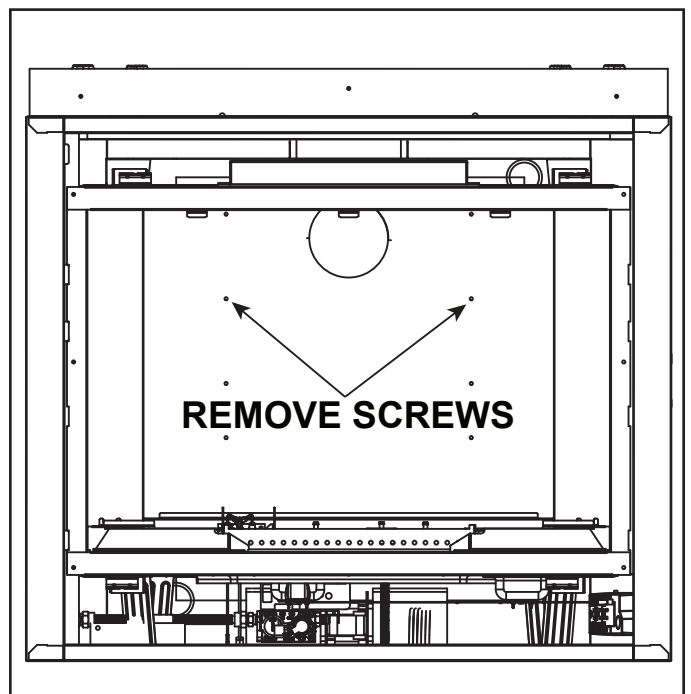
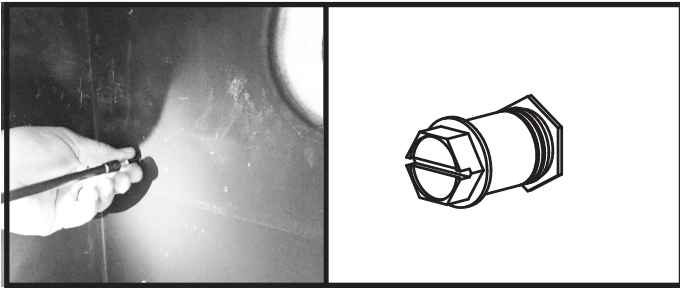

Figure 6 Remove Screws
Figure 7 Install Sleeves
- Locate, remove and discard the two screws located below the rear exhaust hole. See Figure 6. Install the sleeve onto each 1-1/4 inch (32 mm) screw and install in holes. See Figure 7.